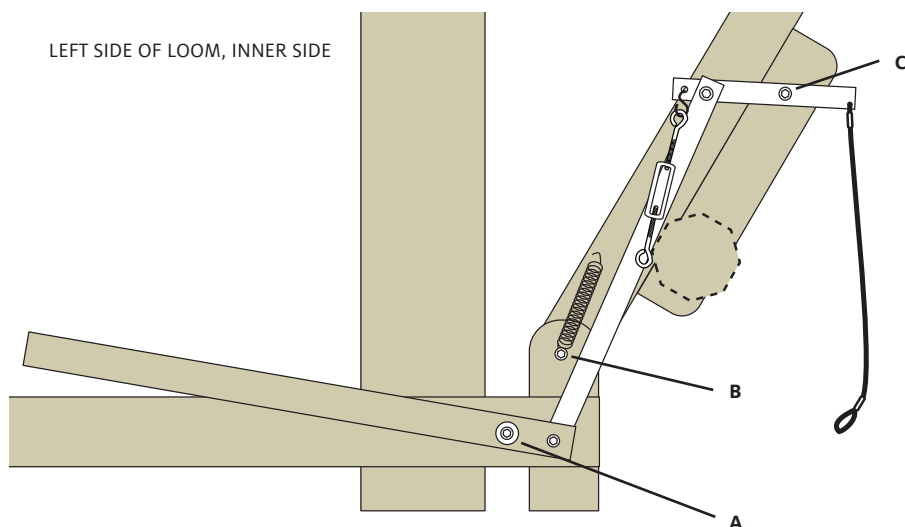

FIGURE 6: INSTALL BRAKE RELEASE PEDAL AND DOUBLE WARP BEAM BRAKE ASSEMBLY
15. From the inner side of the loom, place the brake bar on the carriage bolt at [C] on the double warp beam mount, and the brake release pedal on the bolt at [A] on the lower left side brace, as shown in Figure 6. Let the brake cable and turnbuckle hang loose for now. Put a 1/2" washer and the 1/2-13 lock nut on the bolt at [A]; tighten the lock nut firmly.
17. Put a 1/4" washer on the carriage bolt at [B] in Figure 6, on the left lower rear leg. Place the bottom loop of the brake spring over the washer, then add another 1/4" washer and a 5/16-18 lock